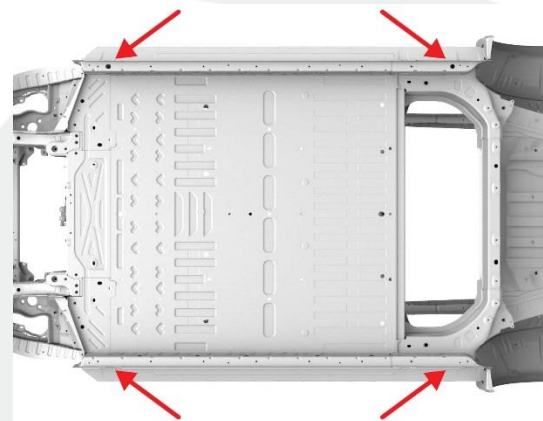

Figure 2 (Inspection area)
3. Inspect the underside of the body side outer in the jack pad areas on the LH and RH sides (Figure 2):